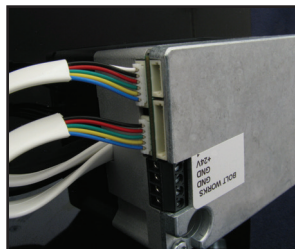

Figure 5
2. Attach bolt works sensor nominally open wire to indicated terminal (Figure 5). Tighten screw with flathead screwdriver.
4. Attach 5-pin cable from the entry assembly into the 5-pin port on the lock (Figure 5).
5. Attach 6-pin cable from the entry assembly into the 6-pin port on the lock (Figure 5). (For Bluetooth operation only.)